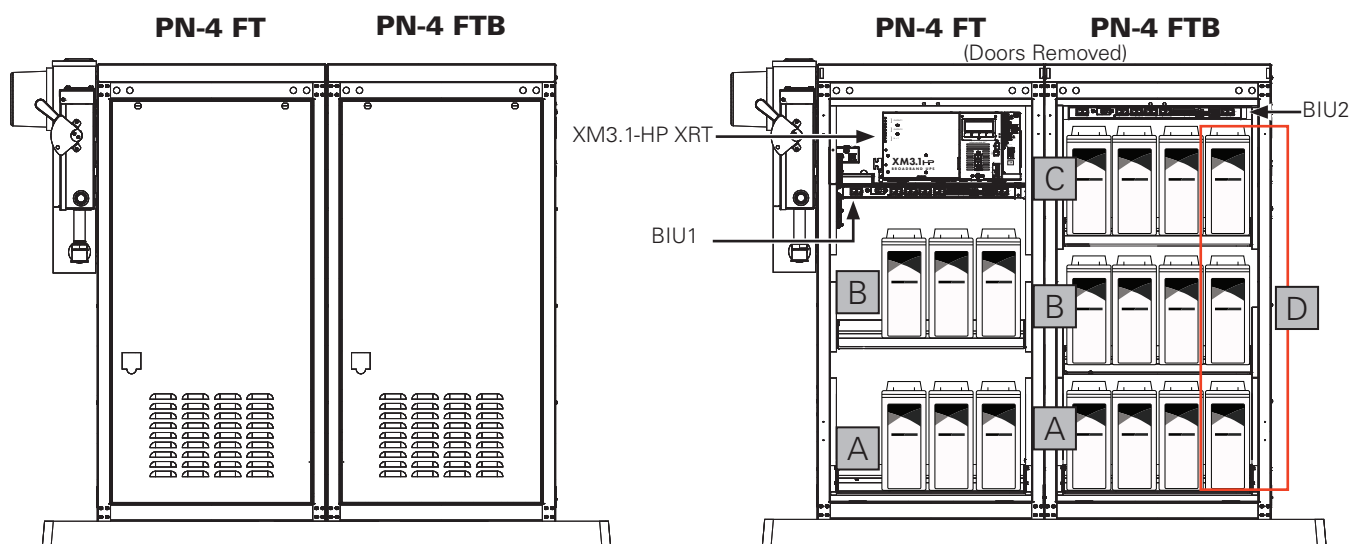
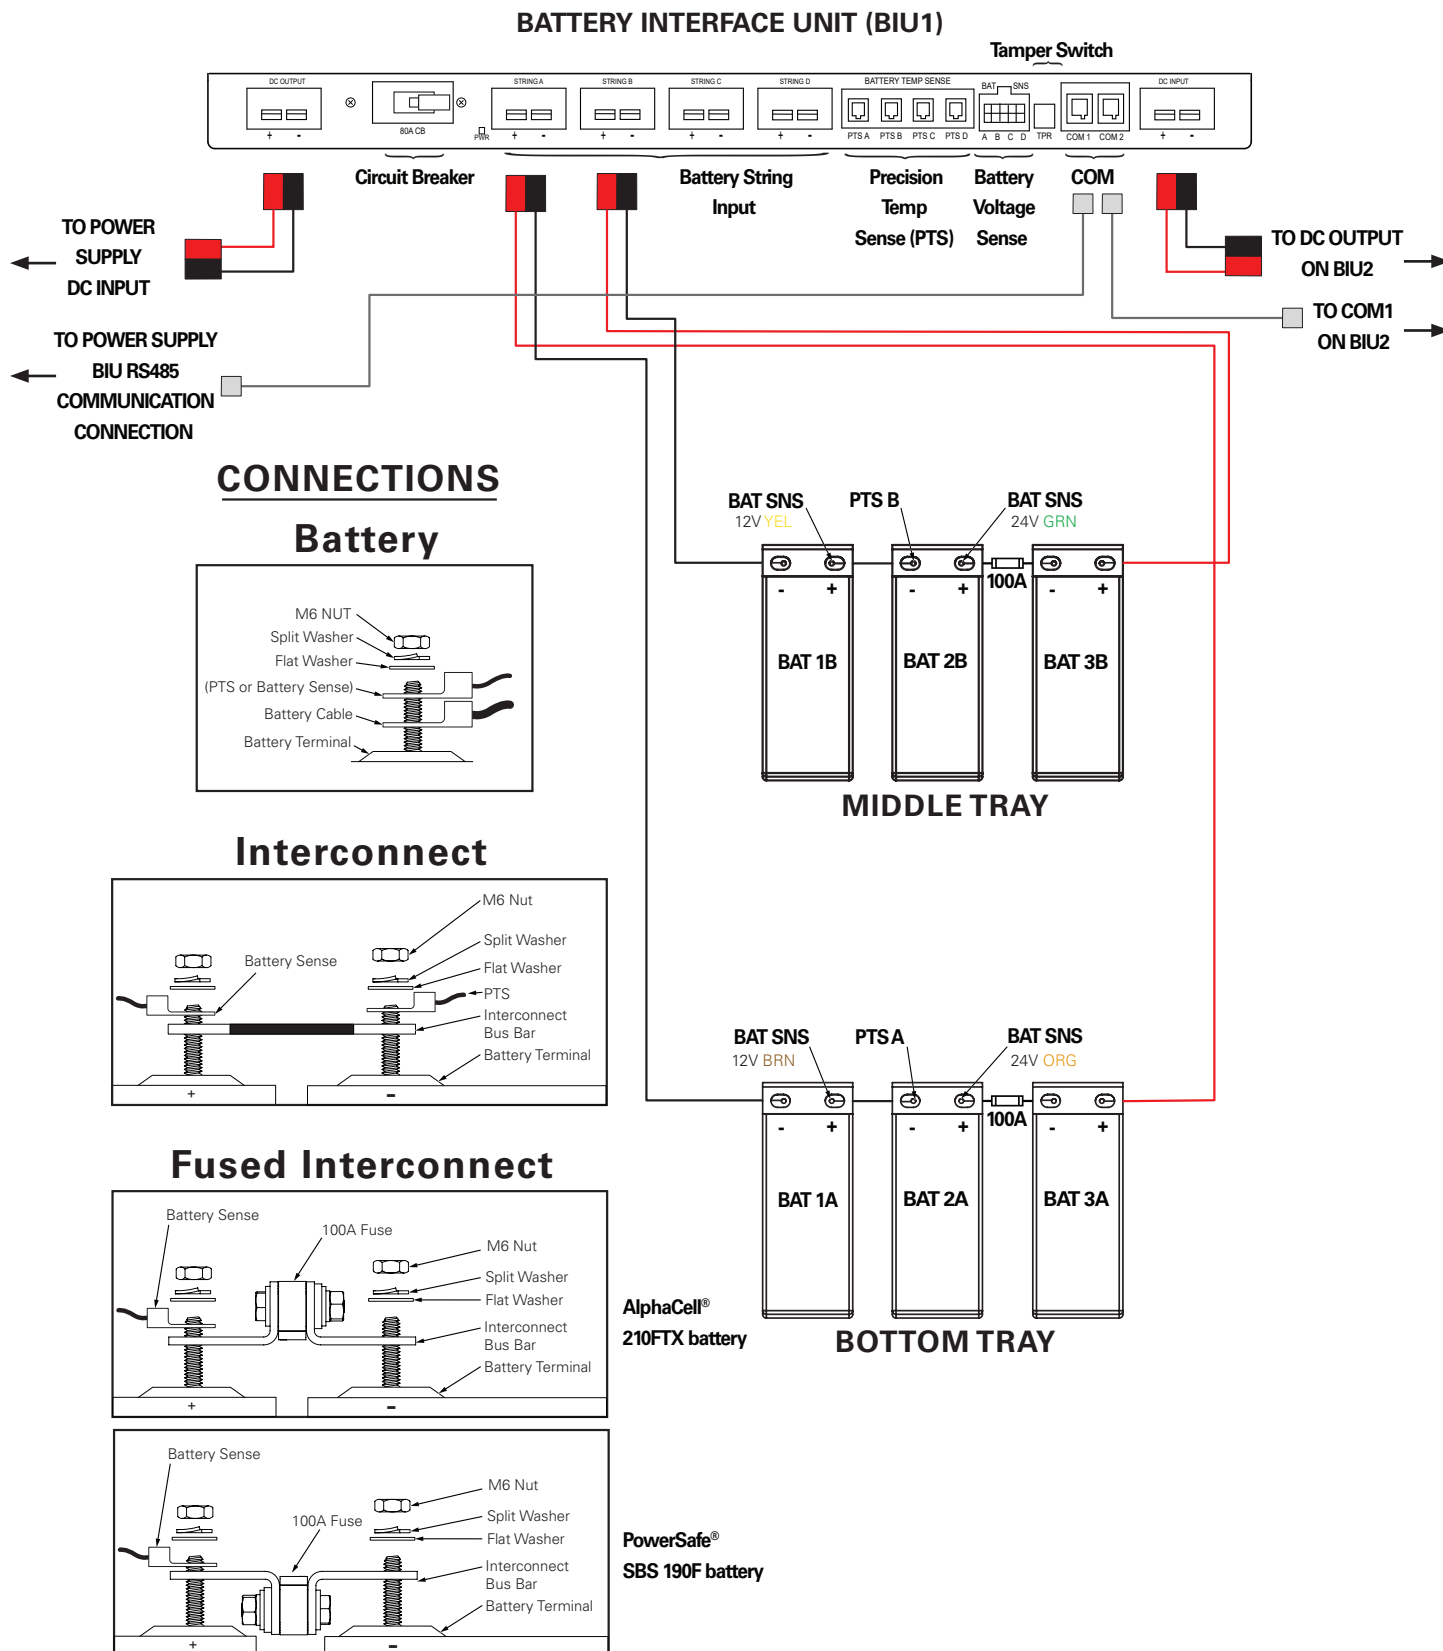
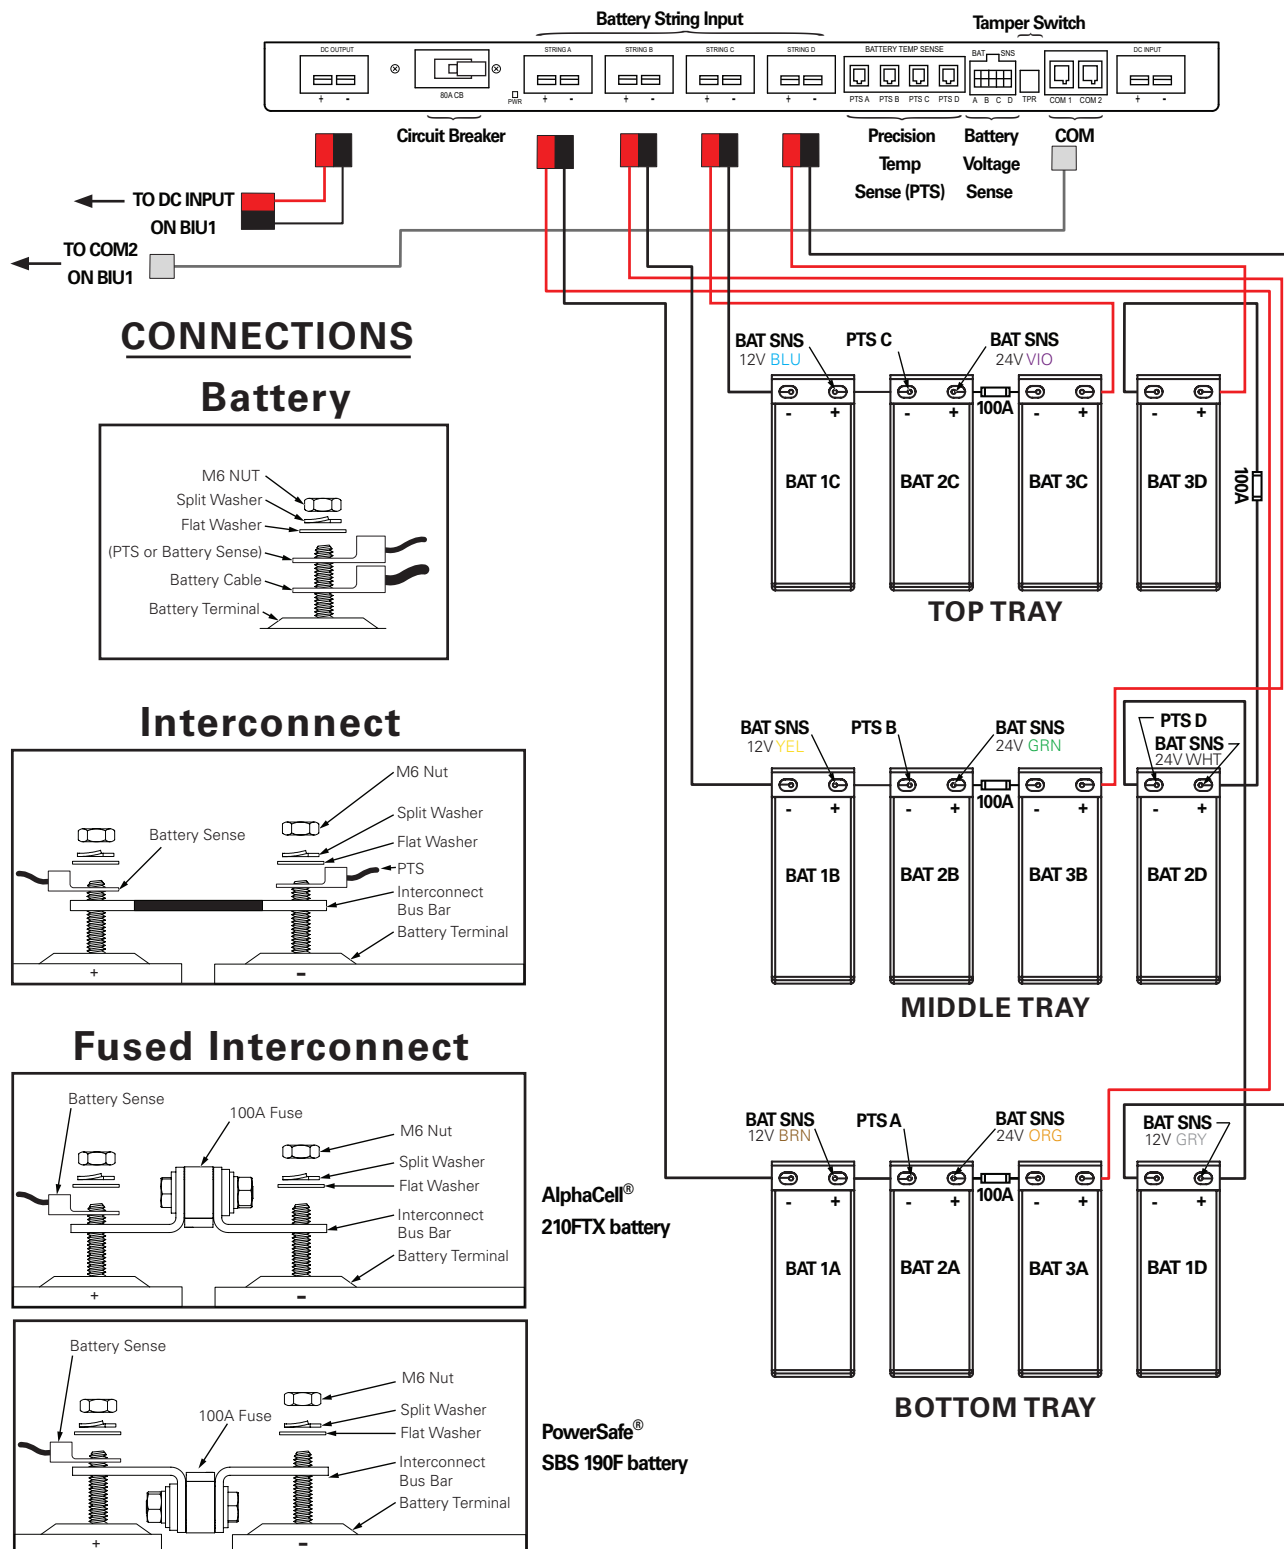

Fig. 1-1, PN-4 FT and PN-4 FTB XRT System
Fig. 2-9, PN-4 FT XRT Battery Installation Arrangement and Wiring Diagram
Fig. 2-10, PN-4 FTB XRT Wiring Diagram
Battery string locations for an 18-battery configuration are noted in the image below as well as in Fig. 2-9 and Fig. 2-10. Each string uses three batteries. Note that String D consists of the fourth battery on each row in the PN-4 FTB.
Review Fig. 2-9 and Fig. 2-10 for hardware stack-up and wiring diagram to see the recommended layout and set up, then proceed with the installation procedure below.
3. Ensure BIU (Battery Interface Unit) is installed (see Fig. 1-1 for mounting locations) and verify the tamper switch (TPR) is plugged in.
13. Install 876-00059-20 BAT,INTG,36VDC,2STRG,PN4FT,W/BIU,PTS,BS in the PN-4 FT with two battery trays. (See Fig. 1-1, Fig. 2-9 and *p/n 031-00014-08* System Wire Diagram available on Alpha's website for reference.)
17. Install 876-00059-22 BAT,INTG,36VDC,4STRG,PN4FT,W/BIU,PTS,BS in PN-4 FTB with 3 battery trays. (See Fig. 1-1, Fig. 2-10 and *p/n 031-00014-08* System Wire Diagram available on Alpha's website for reference.)